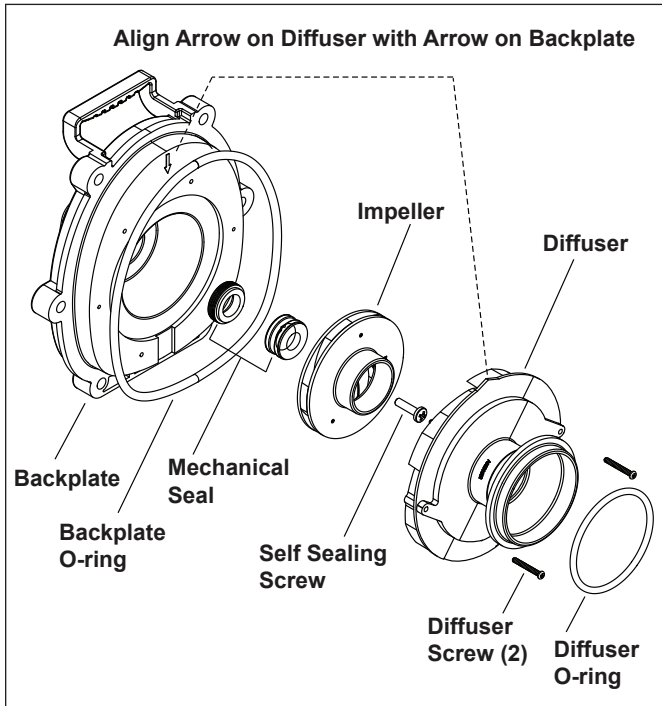

Figure 3. Impeller and Diffuser Assembly Kits
2. Using a No. 1 Phillips screwdriver, remove the two (2) screws attaching the diffuser to the backplate. Carefully remove the diffuser from the backplate. See Figure 3.
9. Install the new diffuser over the impeller. Make sure you insert the alignment pins into the correct holes. The molded-in arrow must align with the molded-in arrow on the backplate. See Figure 3.
10. Install the two (2) Phillips-head screws. Tighten the screws to draw the diffuser against the backplate.